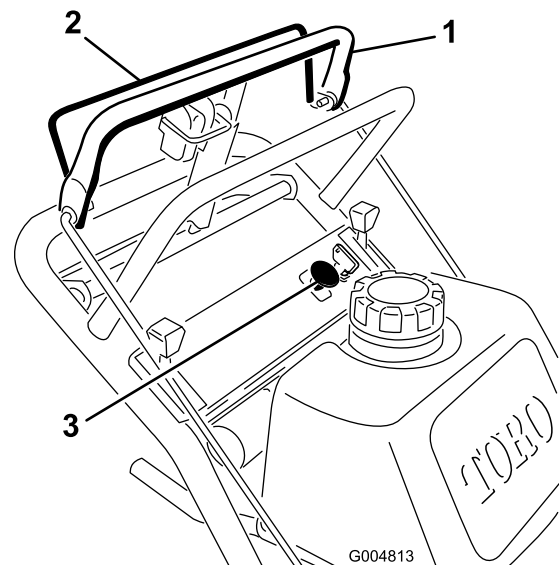

Figure 8
1. Release the upper control bar to stop the machine (Figure 8).
2. To engage blade, squeeze blade control bail against the upper control bar (Figure 8).
Release the blade control bail to disengage the blades (Figure 8).